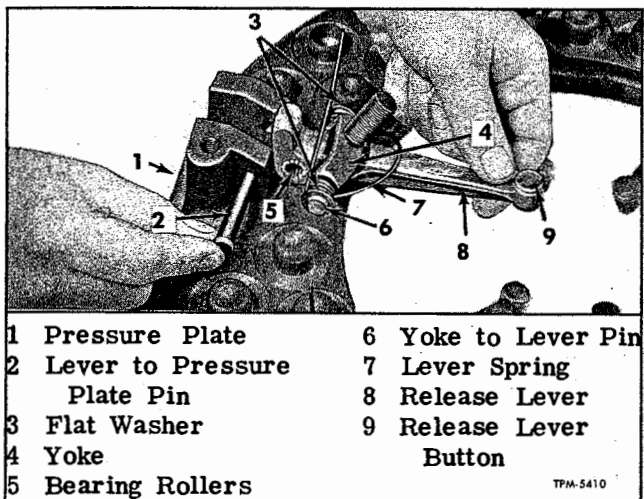

Figure 10—Assembling Clutch Release Lever to Pressure Plate
1. Assemble adjusting yokes (10) and springs on clutch release levers as follows:
b. Lay lever (13) on flat surface and insert a pilot pin in each hole. Apply light coat of release bearing lubricant on needle rollers referring to LUBRICATION (SEC. 13) for correct lubricant. Insert rollers (5 and 8) around pilot pins, then put adjusting yoke (10) in position with spring (12) straddling yoke. Place flat washer (46) on pin (7) then push pin through spring, yoke, and lever, thereby pushing out pilot pin. Assemble washer (46) and cotter pin to retain pin (7).
c. Position lever and yoke assembly at pressure plate, then install pin (fig. 10) and retain with cotter pin.